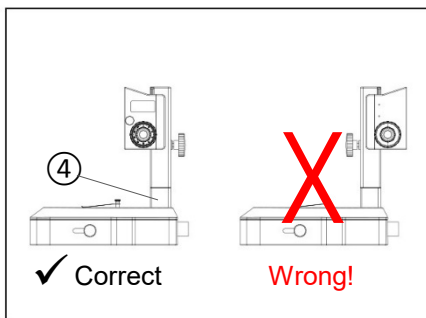

Fig. 2
Loosen the lock knob ① of the focus drive ②. Position the focus drive as shown and gently slide it all the way down onto the column pole ③ until the bottom of the focus drive is flush with the column base ④, Fig. 2.
WARNING: the focus drive **MUST** be mounted correctly as shown in Fig. 2. Mounting it improperly will result in the microscope tipping over which may cause damage.